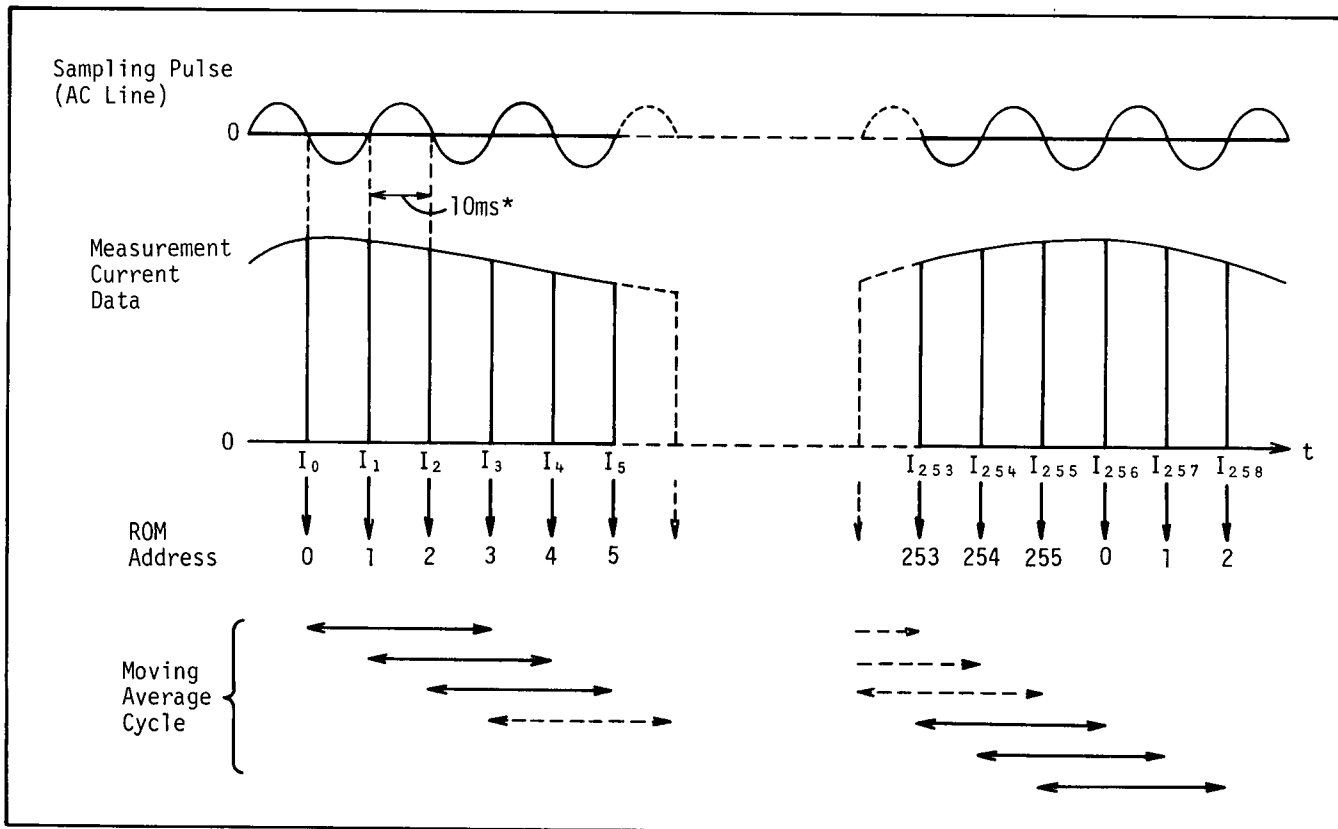

Figure 8-4. Moving Average Technique.
Current measurement Digital data which is sampled in the D-A Converter is stored in a RAM (Address: 0 ~ 255). This data is digitally integrated by the following procedure (see Figure 8-4.):
- ① Number for digital integration (2 ~ 256) is fixed (example in Figure 8-4 is 4).
- ② First current measurement data, I_0 , is stored in the RAM (Address: 0).
- ③ Currents I_1 thru I_3 are stored in the RAM (Address: 1 ~ 3) in order.
- ④ I_a (result of moving average) is calculated by the following formula: